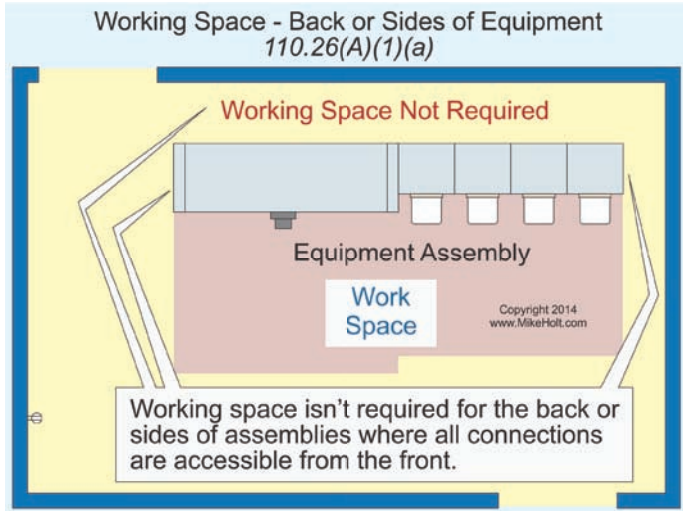

Figure 110-11
**(a) Rear and Sides.** Working space isn't required for the back or sides of assemblies where all connections and all renewable or adjustable parts are accessible from the front. **Figure 110-11**